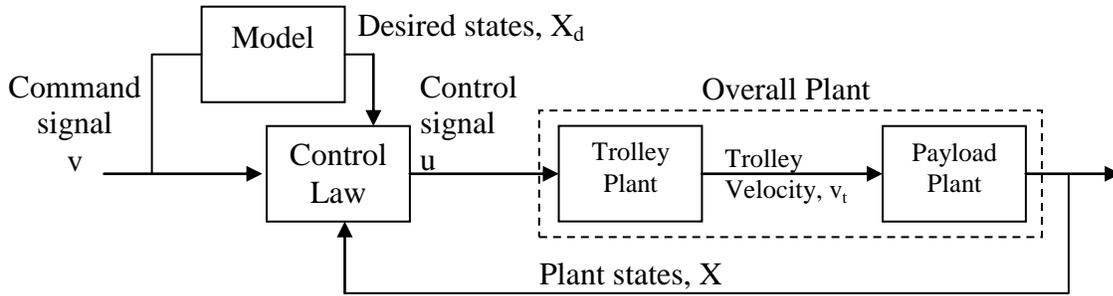

Figure 2: Model Reference Control on Payload Oscillation
The goal for this part is to force the payload oscillation to behave like a second-order model of your choosing. The block diagram is shown in Figure 2. The overall plant is the trolley and payload.
1. Design and simulate a model reference controller in the form of Figure 2 to control the payload oscillation. Use the Matlab template or any other simulation software.
- Use the state space model in (4) for the payload plant i.e. $f(x,u,t)$. Assume $\omega_n = \sqrt{g/L}$, with $L = \text{suspension length} = 1.0\text{m}$, and $\zeta = 0.001$.